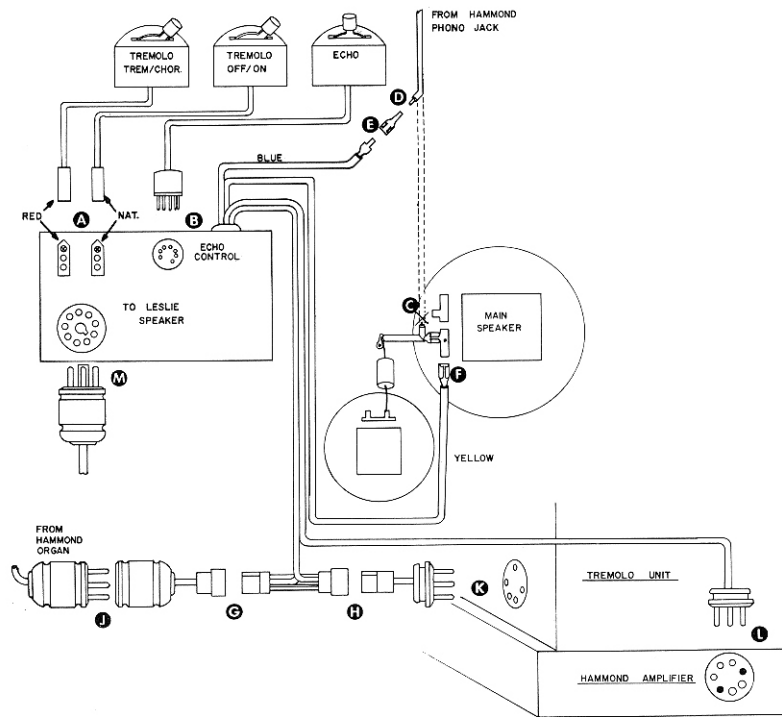

Fig. 1
5. Connect the Molex plugs from the tremolo controls to matching colored Molex console connector sockets. (See "A" on Fig. 1.)
6. Connect the echo control plug to the eby socket on the console connector marked: "ECHO CONTROL. " (See "B" on Fig. 1.)
7. At the main speaker signal terminal, cut the signal wire which emanates from the HAMMOND phono jack. (See "C" on Fig. 1.) Do not cut the signal wire leading to the smaller speaker.
8. Strip 1/4" insulation from the cut end of the main speaker signal wire. (See "D" on Fig. 1.) Crimp the female tab connector supplied in the hardware kit to this wire.
9. Connect the BLUE console connector interceptor wire to the main speaker signal wire.(See "E" on Fig. 1.)
10. Connect YELLOW console connector interceptor to the vacant main speaker signal terminal. (See "F" on Fig. 1.)
11. Connect the adapters supplied to the Molex plug and socket of the remaining console connector interceptor. (See "G" and "H", Fig. 1.)
12. Detach the 5 pin HAMMOND plug from the tremolo unit. (See "J" on Fig. 1.) Plug it into the 5 contact adapter socket. (See "G" on Fig. 1.)
13. Insert the 5 pin adapter plug into the vacated socket on the tremolo unit. (See "K" on Fig. 1.)
14. Insert the modified 7 pin console connector plug into the modified 7 contact socket at the rear of the HAMMOND amplifier. (See "L" on Fig. 1.)
15. Attach speaker cable provided to the Model 610 Speaker and the console connector. (See "M" on Fig. 1.)